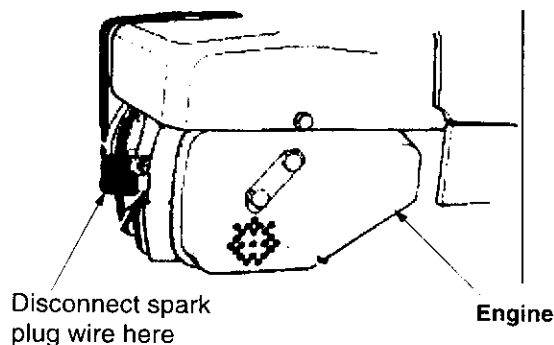

Figure 1
- Before you proceed with the assembly procedure, disconnect the spark plug wire from the spark plug on the log splitter engine and move the wire away from the spark plug. This will prevent accidental starting. See Figure 1.